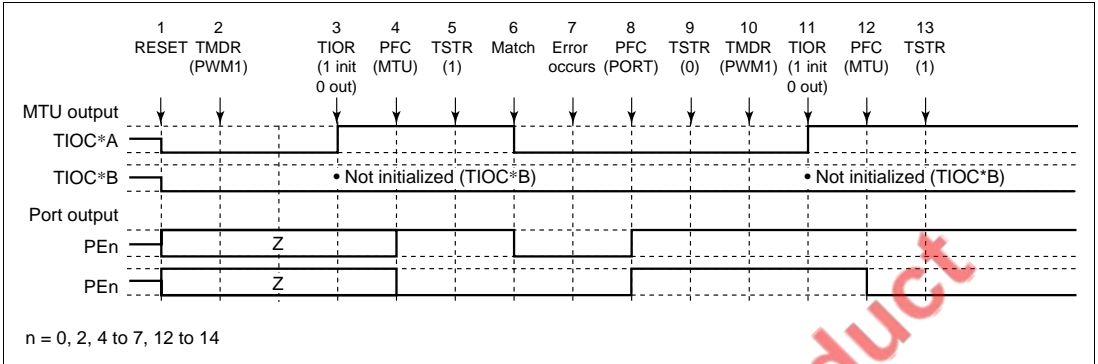

Figure 8.53 Error Occurrence in PWM Mode 1, Recovery in PWM Mode 1
(5) **Operation when Error Occurs during PWM Mode 1 Operation, and Operation is Restarted in PWM Mode 1:** Figure 8.53 shows an explanatory diagram of the case where an error occurs in PWM mode 1 and operation is restarted in PWM mode 1 after re-setting.